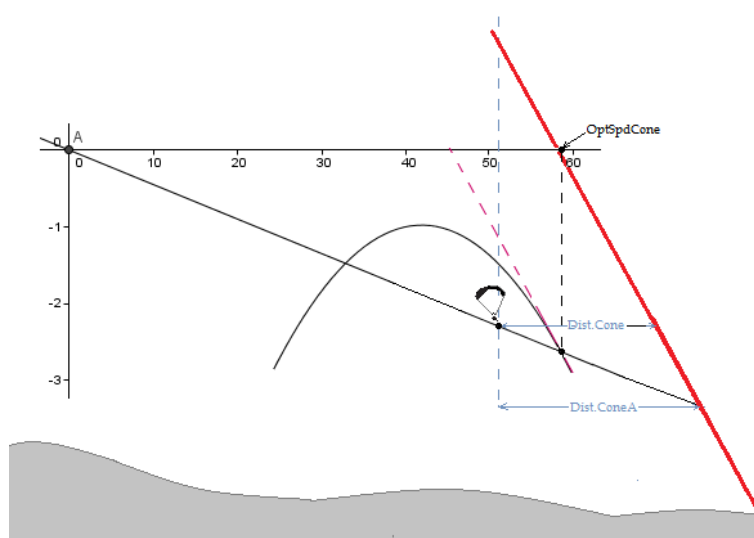

Figure 5.2: Conical End of Speed Section
Consider the same task represented in Figure 4.5, but now the *End of Speed Section* (ESS) is a cone with 4:1 ratio. In order to set up the task you should make the same steps defined in Section 5.1 except the step 5. As the cone as a ratio of 4:1 in this step you should set the *Cone* parameter to 4.0. The NAV SD provides some information to optimize the navigation when the ESS is conical. This information is provided through 5 additional data fields which can be included in a Layout page. Each of the data fields is explained in Section 3.2, but for a better understanding consider the situation of Figure 5.2.
In the example of Figure 5.2, the pilot is flying to the ESS at a certain true air speed (TAS). There is an optimum TAS value which minimizes the time to reach the ESS. This value depends on the polar and cone ratio, and is not affected by the wind or thermals. The NAV SD calculates the optimal TAS value
When the ESS is a cylinder the distance to the ESS does not depend on the pilot altitude. On the contrary, when the ESS is a cone the distance to the ESS depends on the altitude. Because of this, the NAV SD provide 2 distances in 2 different data fields. The *Dist.Cone* data field shows the distance to the ESS at the current pilot altitude (see Figure 5.2). As the glider glide ratio (GR) is usually positive and finite the altitude at which the pilot reaches the ESS is different from the current altitude, so real distance to the cone depends on the GR. The *Dist.ConeA* data field shows the horizontal distance to the ESS considering the expected average GR trough the remaining path (see Figure 5.2).